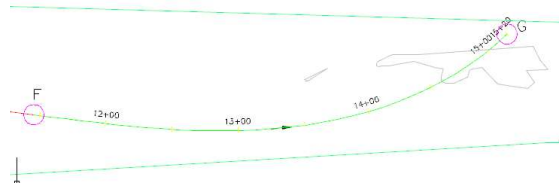

Figure 5-69 Specifying the end point to add a fixed spiral
4. Press ENTER to select the **Incurve** type; you are prompted to specify the end point of the spiral. Click at the center of the circle G to specify the end point of the spiral, as shown in Figure 5-69.